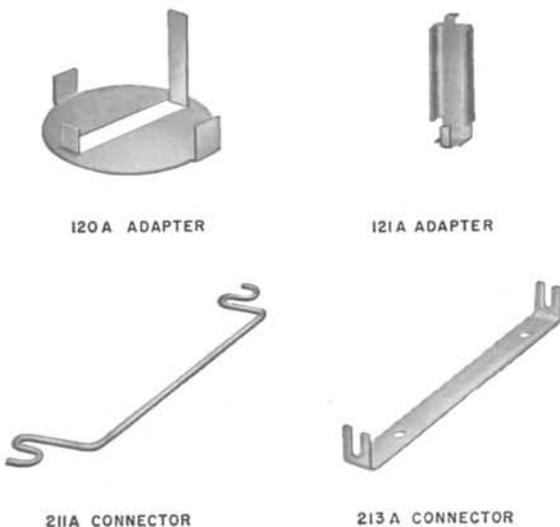

FIG. 13—ADAPTERS AND CONNECTORS
7.02 The adapters and connectors (shown in Fig. 13) used in converting protectors are: